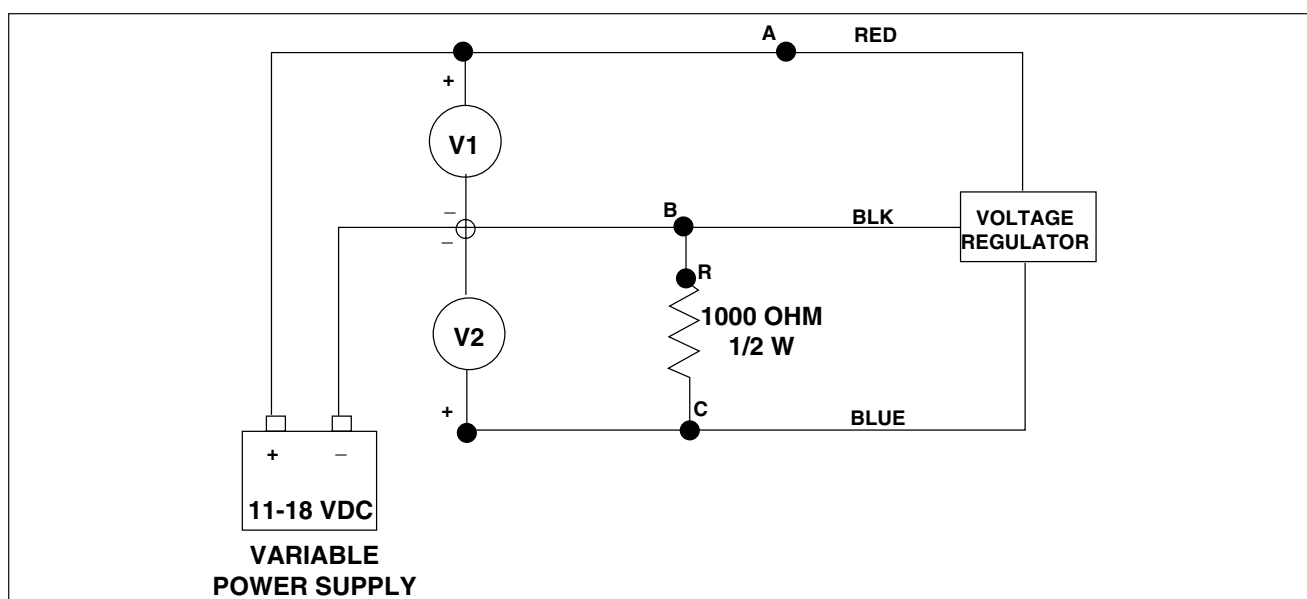

Figure 11-44. Lamar 14 Vdc Regulator Check
### 11-61. TESTING LAMAR 14 VOLT SYSTEM REGULATORS (Refer to Figure 11-44)
- B. Connect negative voltmeter lead to regulator ground wire (black). Incorporate a 1000 ohm, 1/2 watt resistor into the circuit. (Refer to figure 11-44.)